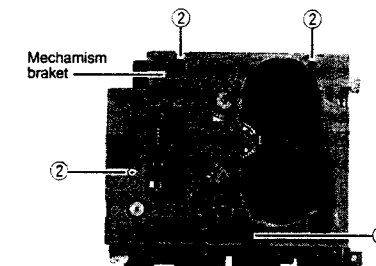

Fig. 10
- Remove four screws ② to remove the Mechanism bracket. (Fig. 10)